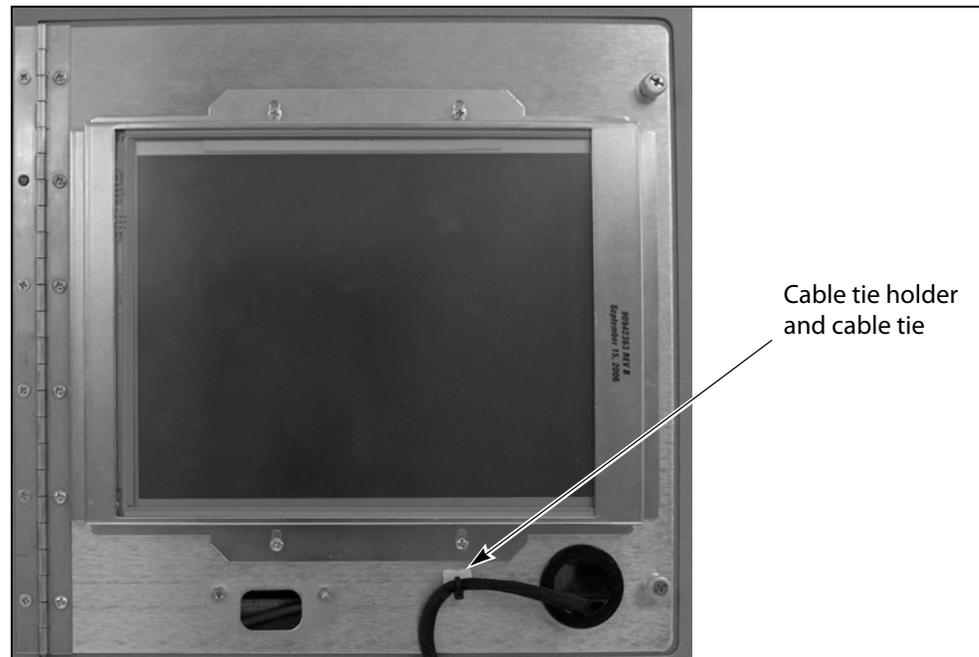

Figure 27 Secure the power button cable to the front of the LCD panel.
5. Use a cable tie holder and cable tie to secure the power button cable to the front of the LCD panel as shown in Figure 27.